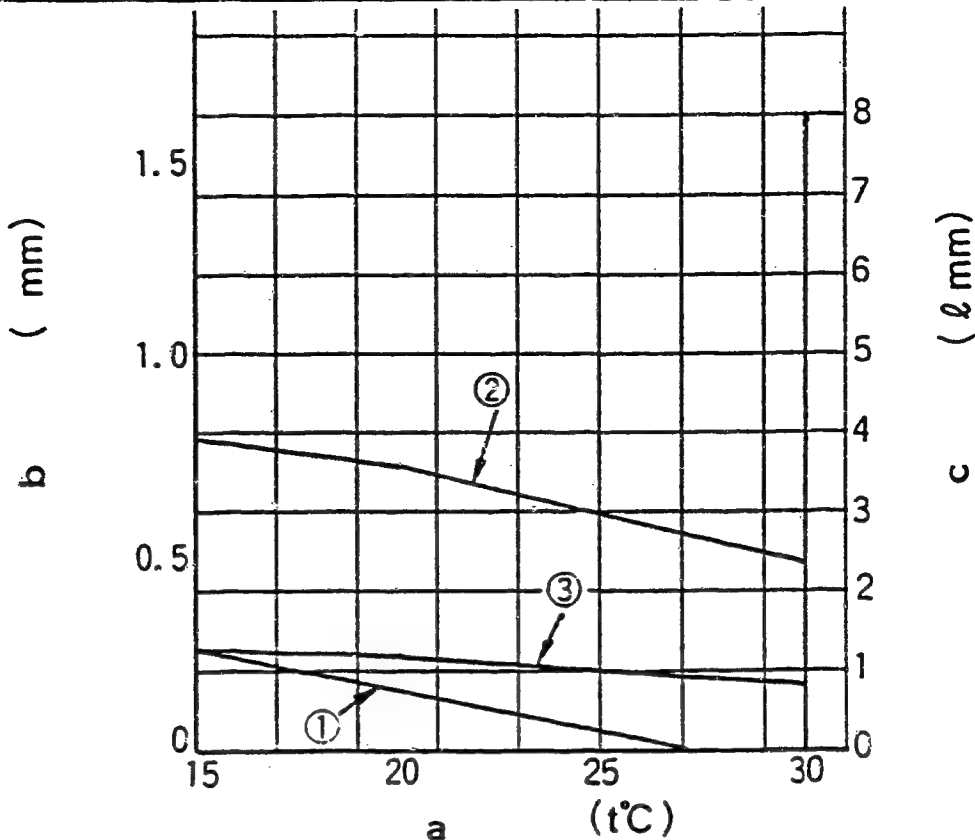

Figure 22
- 1) Calculate the timer stroke from Fig. 22 according to the atmospheric temperature at the time of adjustment.
- 1) Calculate the block gauge dimension $l \pm 0.05$ mm from Fig. 22 according to the atmospheric temperature at the time of adjustment.